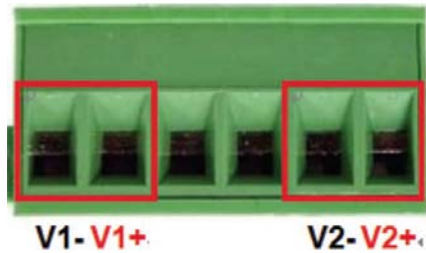

Figure 13. Power Terminal Block
1. Insert the positive and negative wires into the PWR1 (V1+, V1-) and PWR2 (V2+, V2-) contacts on the terminal block connector as shown in figure 13 on page 20.